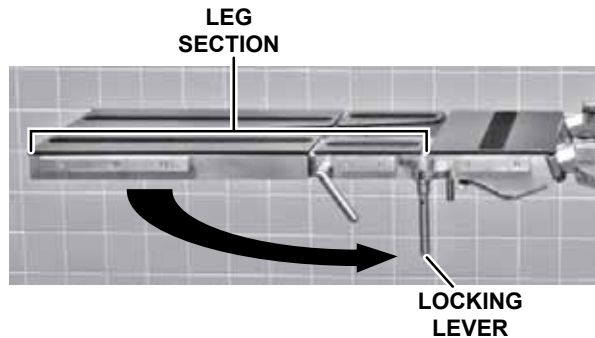

Figure 14. Leg Section Removal
- c. Remove each leg section as follows (Figure 14):